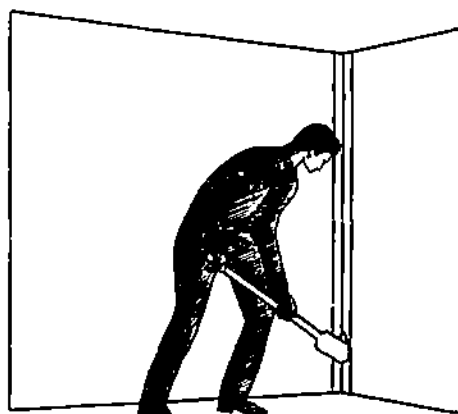

Figure 5-30
1. The first pass on a vertical angle should be from the bottom up to a point (about 45 cm to 60 cm from the floor) that allows easy blending with the second pass. Brace the handle against your leg (Figure 5-30) to provide enough pressure to force the filler out, and bend your legs so that when they are straightened the box will be lifted up the angle without putting strain on your back.